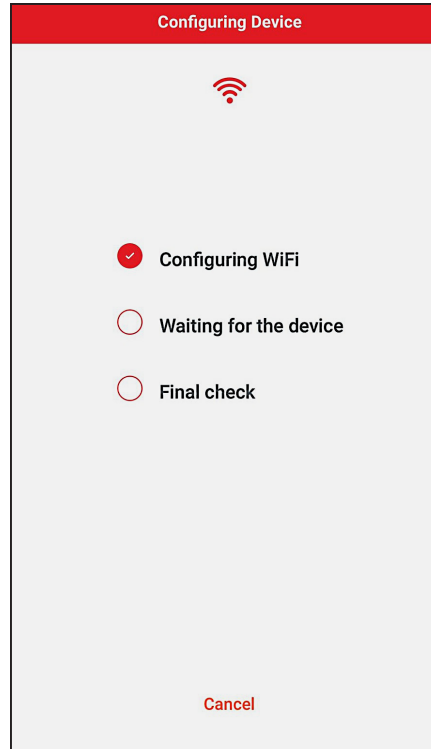

Figure 102. Configuring Device
9. The Raymote mobile app will provide the Wi-Fi network credentials to your unit. See Figure 102.